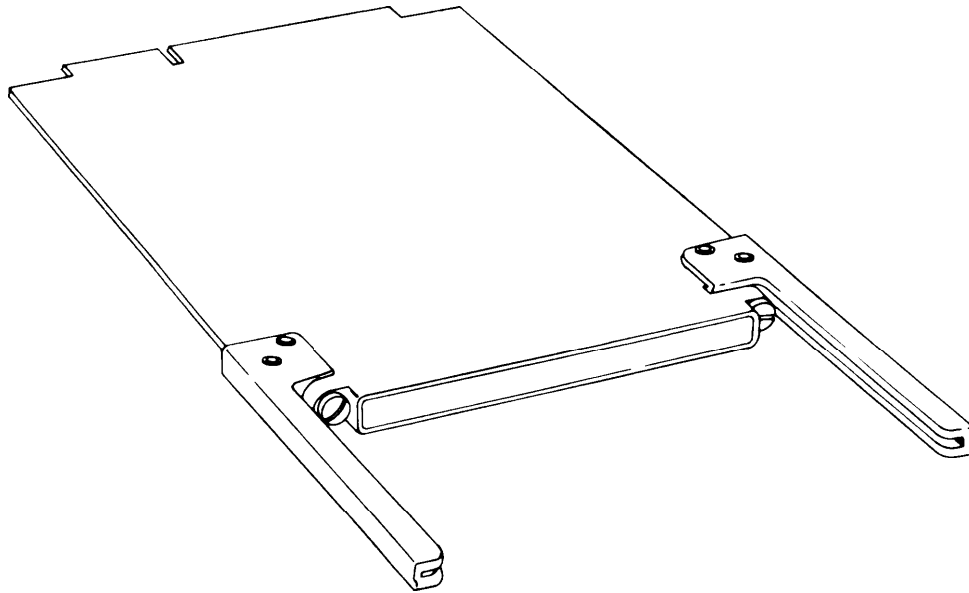

Figure 4-14. Typical Extender Board Assembly
a. Extender Board Procedure. The removable circuitboard subassembly is prepared for troubleshooting by mounting it in applicable extender board (see figure 4-14) listed in table 4-29. The circuitboard and extender board is then substituted in the applicable chassis connector of a known serviceable receiver-transmitter establishing the basis that all inputs to the malfunctioning circuitboard are norms 1. The test setup used is shown in figure 4-12 and described in paragraph 4-15a.